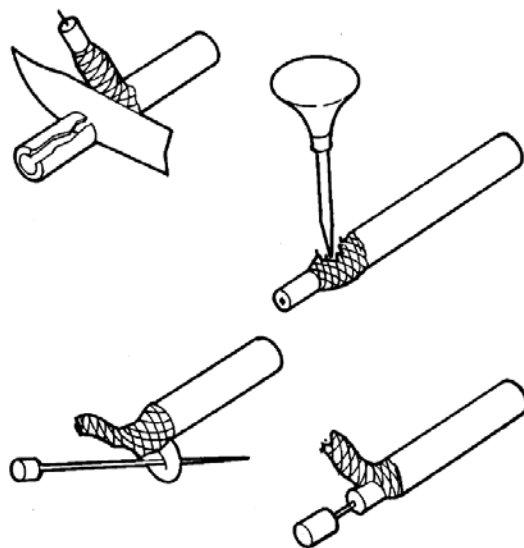

Figure 3-1. Preparation of Shielded Cable
*—Where a shielded cable is required, prepare the cable as instructed below and as shown in Figure 3-1. Cut the required length of coaxial cable. (A) Strip off outer insulation from both ends exposing the braided shield. Do not cut the braid. (B) Using a sharp pointed tool (awl) carefully make an opening in the braid and (C) pull inner conductor Out of the braid. Twist braid to prevent it from fraying, then (D) remove 1/4" of insulation from the inner conductor. Connect the longer inner lead to the connector pin and the braid to the chassis ground. Ground the braid at the control unit only. Do not attempt to tin (solder) the braided shield. A heat sink of some type (alligator clip, etc.) must be used to prevent heat from traveling to the insulation of the inner conductor and melting it.